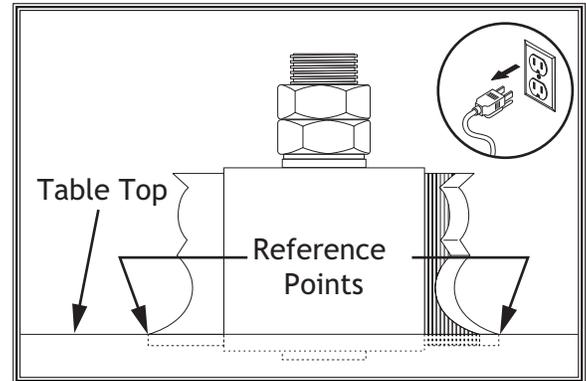

Figure 5. Reference points on knives aligned with table top.
3. Choose a reference point on first knife you installed, and adjust spindle height until this point is even with table top, as shown in **Figure 5**. (The reference point can be the bottom corner of the knife or any feature that allows vertical alignment with table top).